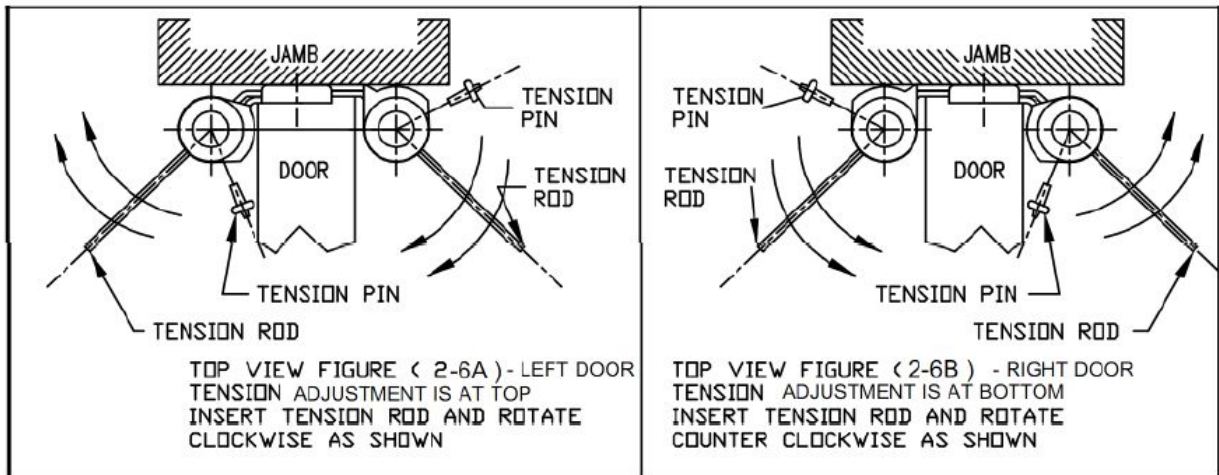

FIGURE 4
1. If you are replacing the rubber seal between the hinges, loosen the tension on the door hinges. (See Figure 4). You don't need to remove the door if replacing the nose side seals.